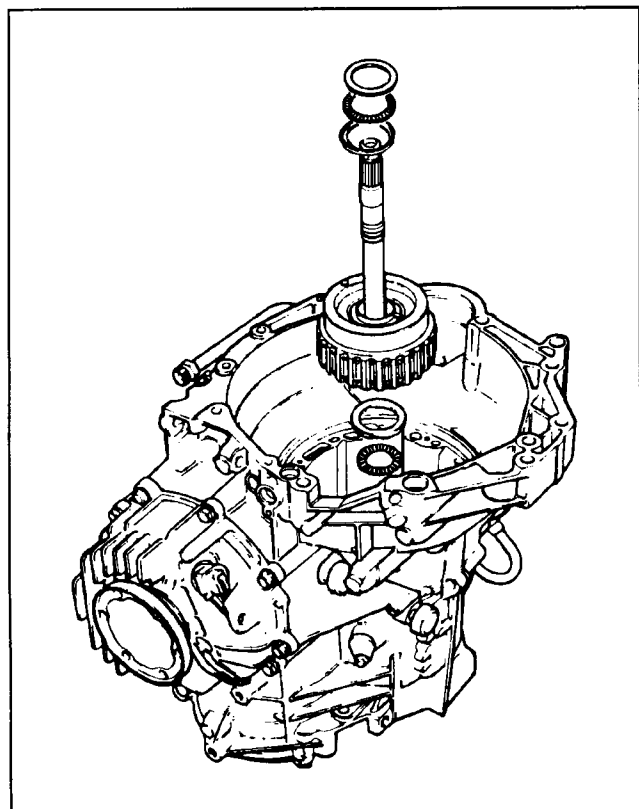

Figure 61
11. Remove the three piece torrrington bearing and set aside. Lift and remove the drum assembly for the K3 clutch, and then remove the two piece torrrington bearing and set aside. (See Figure 61)